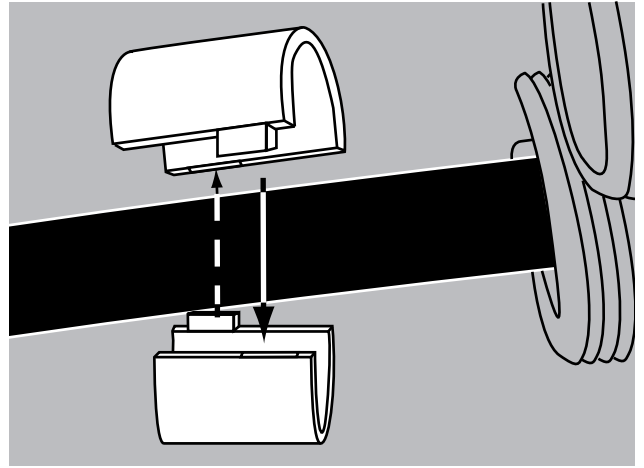

Figure 10
- Select the extended split driver for express ports. (Figure 10)